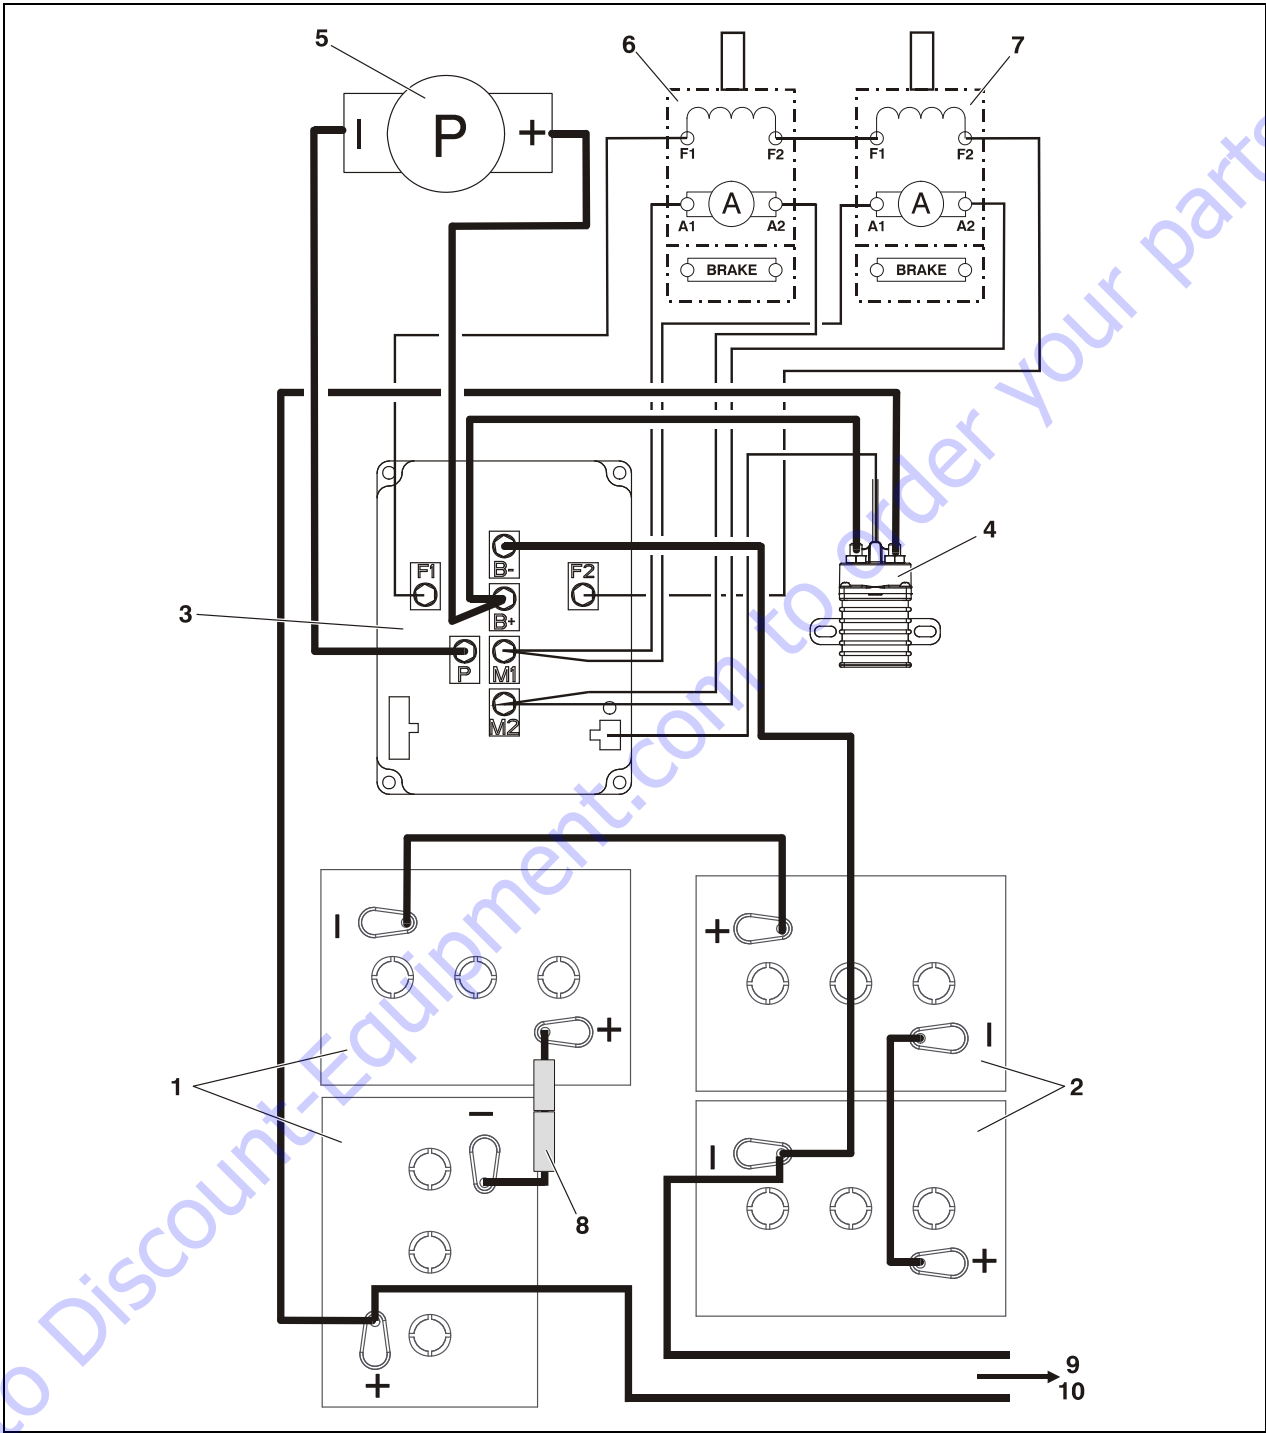

Figure 5-1. Main Electrical Power Connections - (1600346 - SEVCON Power Module)
Note: See (See Figure 5-1.) for electrical wiring connections.
NOTE: Note the wire terminal locations when removing the Power Module (See Figure 5-1.).
2. After installing the power module, begin connecting the wires back to the controller. (Reference Figure 5-1.)